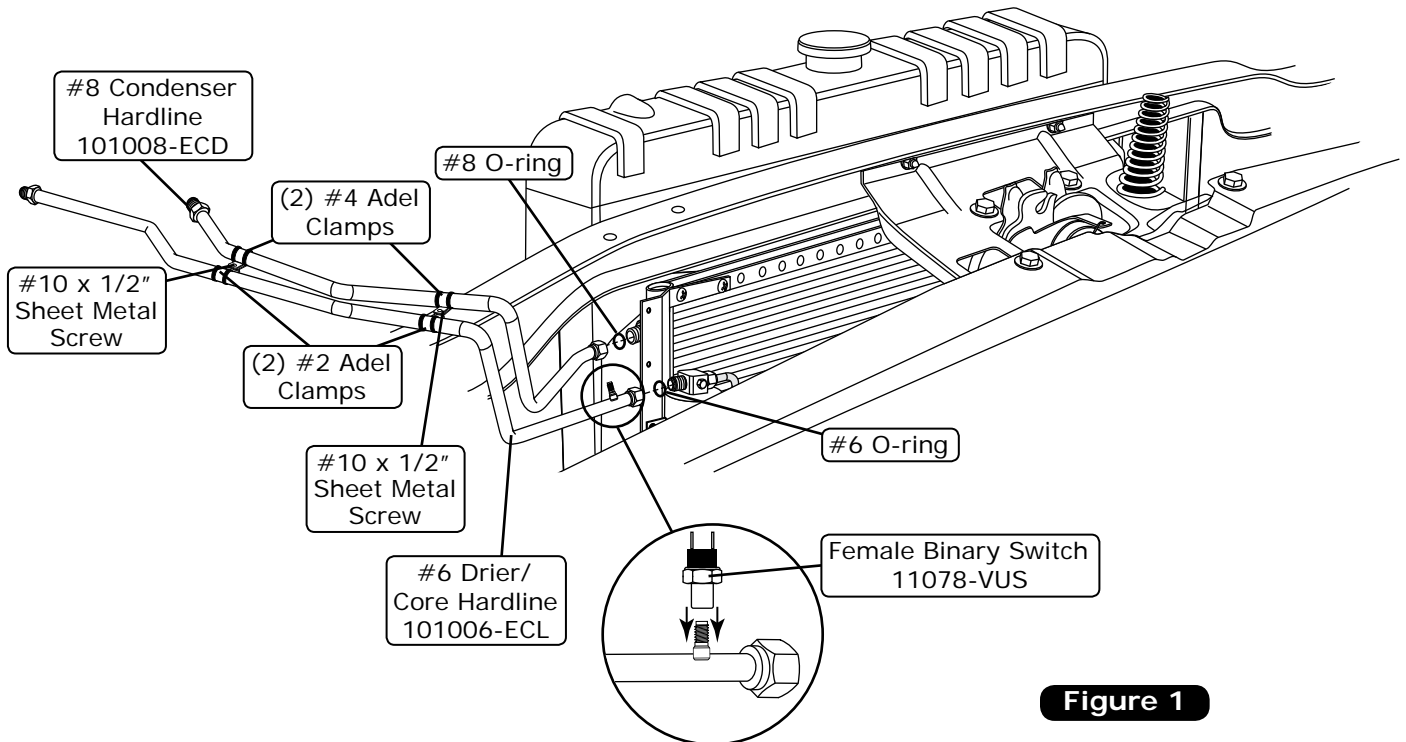

Figure 1
2. Lubricate a #6 O-ring and #8 O-ring as shown in Figure 1, Page 8.
3. Install the #6 drier/core hardline and the #8 condenser hardline as shown in Figure 1, below.
4. Tighten the fitting connections as shown in Figure 1, Page 8.
5. Install the female binary switch onto the service port located on the #6 drier/core hardline as shown in Figure 1, below.